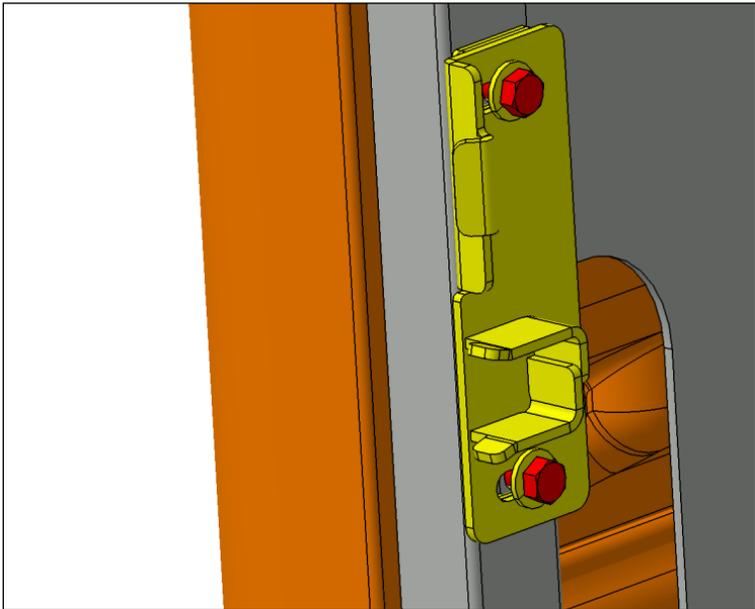

FIGURE 18
17. Perform the transversal adjustment by moving the strike plate using the slotted holes (FIGURE 18).